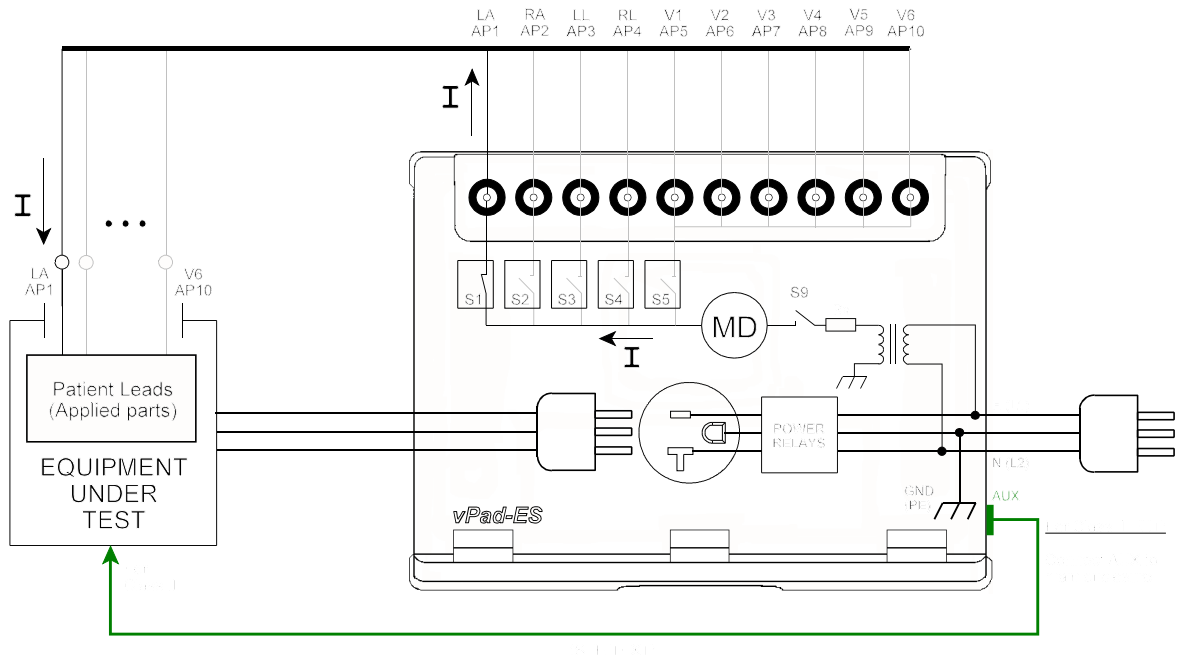

Figure 51 - Lead isolation test diagram.
To prepare for the test, connect the power cord of the EUT to the test receptacle, and connect the EUT patient leads to the corresponding binding posts of vPad-ES as shown in **Figure 51**. If the EUT is Class II (two-wire power cord), use a jumper lead to connect the green "AUX" test jack on the right side of the Base Unit to the EUT enclosure. See Section 4.9.4 for more information.
While the test voltage is either OFF or ON, individual patient leads or lead groups may be selected by pressing the corresponding radio button under the numeric readout. Selecting a particular lead or group of leads closes the corresponding switch or switches S_1 to S_5 of **Figure 51**, connecting the measuring device (MD) between the lead(s) and the isolation transformer. As previously described, V1-V6 (AP6-AP10) are treated as a single lead. When the ISO Test Voltage is ON (S_9 closed), the resulting leakage current is measured over three ranges (200, 2000 or 20000 μA full scale), with the range being automatically selected by vPad-ES, as required.
If the equipment is ungrounded and thus has a two-wire power cord, a test jumper lead must be used to connect the enclosure of the equipment to the "AUX" jack of the vPad-ES, as shown in *Figure 51*. If the "AUX" connection is omitted when testing patient leads of ungrounded (Class II) equipment, then no leakage current will be measured.